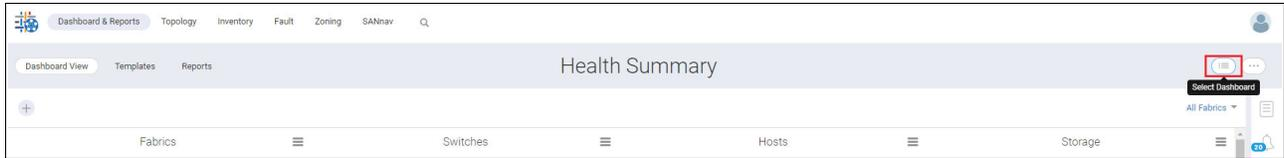

Figure 5-63 Selecting a dashboard
2. If the Health Summary dashboard is not the default dashboard, click the **Select Dashboard** icon at the upper right of the window, click **Health Summary** in the table, and click **OK**. (Figure 5-63 on page 165).